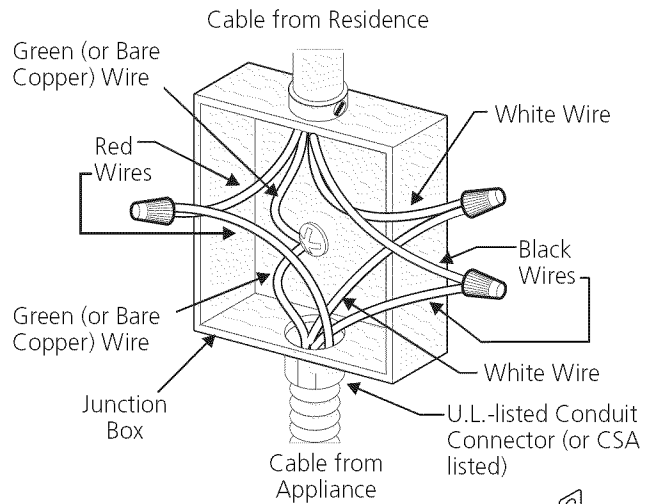

Figure 6 – 4-Wire Electrical System (Example: Junction Box)
### Where local codes DO NOT permit connecting the appliance-grounding conductor to the neutral (white) wire, or if connecting to 4-wire electrical system (see Figure 6):
3. In the circuit breaker, fuse box or junction box (Fig. 6):